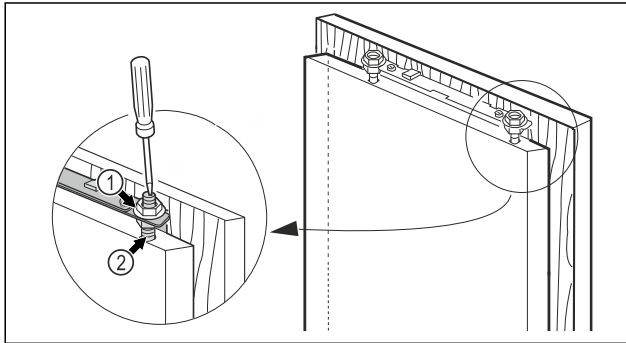

Fig. 24
- ▶ Tighten the lock nuts Fig. 24 (1) with a hexagon spanner 13, stabilising the adjusting bolt Fig. 24 (2) with a screw-driver.